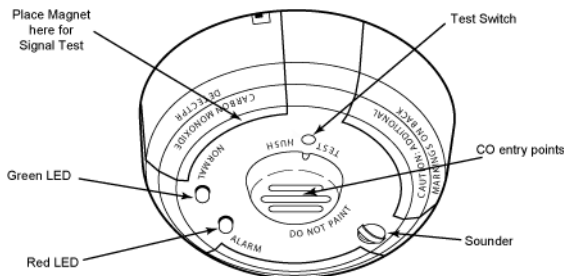

Figure 3 LEDs, Sounder, Test Switch and Signal Test Locations
1. Locate the recessed detector test switch located on the detector cover (Figure 3).
5. Spray a very small amount of **Solo brand C6 canned CO** into one of the 3 small gas entry holes located on the top center of the detector (figure 3).
The test must be performed while the CO detector is held in its intended mounting location. Install a battery in the CO detector. Initiate the test by placing a strong magnet on the CO detector housing at the location shown in figure 3. The piezo sounder on the rf transmitter inside the detector will beep once. A delay of up to 15 seconds will occur followed by either one or two beeps. One beep indicates an unacceptable location and two beeps indicate an acceptable location. If only one beep is heard then relocate the model 350 mounting
This switch has multiple functions and is located in an opening on the detector housing as shown in figure 3. To activate the recessed switch insert a small tool (0.18" □ max.) into the test switch opening; push and hold for 3 seconds. **Warning: Pressing this switch WILL cause an alarm at the control panel.**